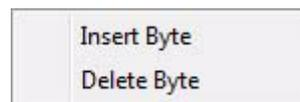

Figure 15. Insert Context Menu
1. Without selecting the data byte, right click the data byte and select the desired action from the menu, shown in Figure 15.